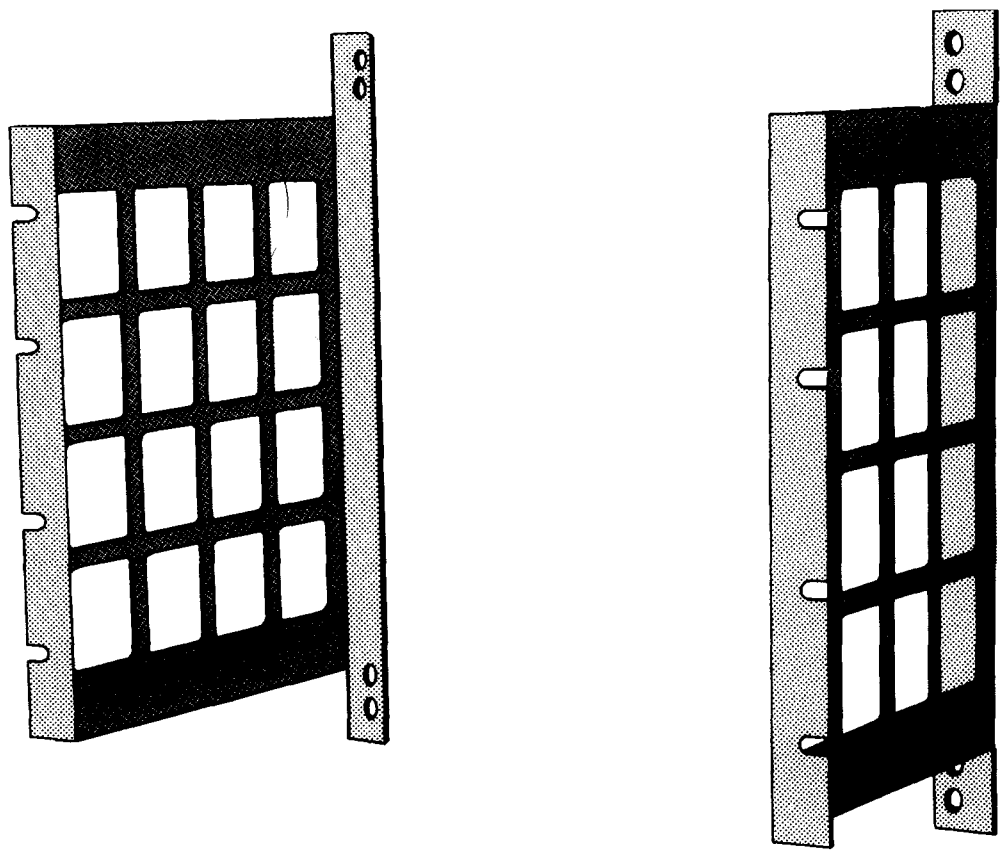

Figure 3-2 Connecting Side Plates
1. Remove the side plates on the H819 module housing. Unscrew the connecting screws. See Figure 3-2.